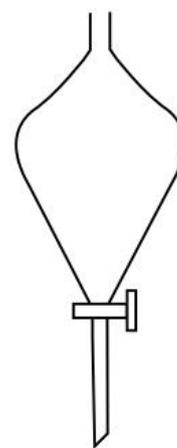

Figure 44.1: Separating funnel
5. Allow the mixture to cool then pour into the separating funnel (see Figure 44.1). Allow to stand overnight.